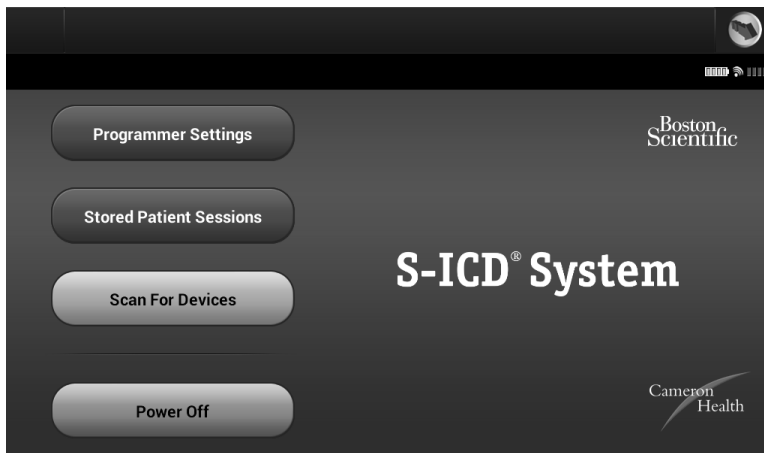
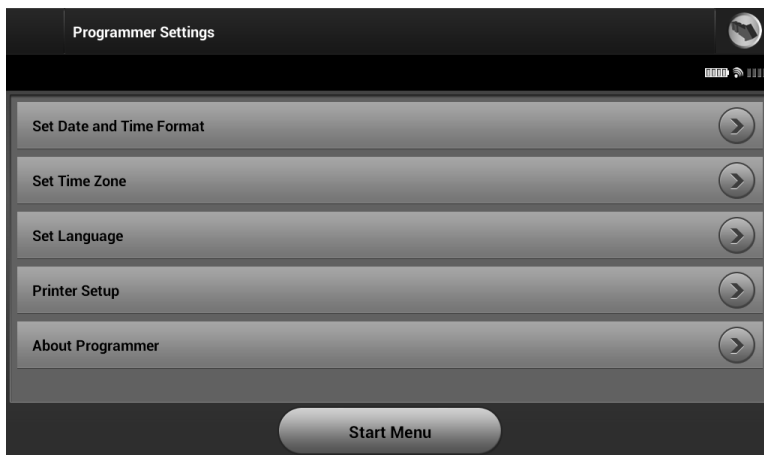
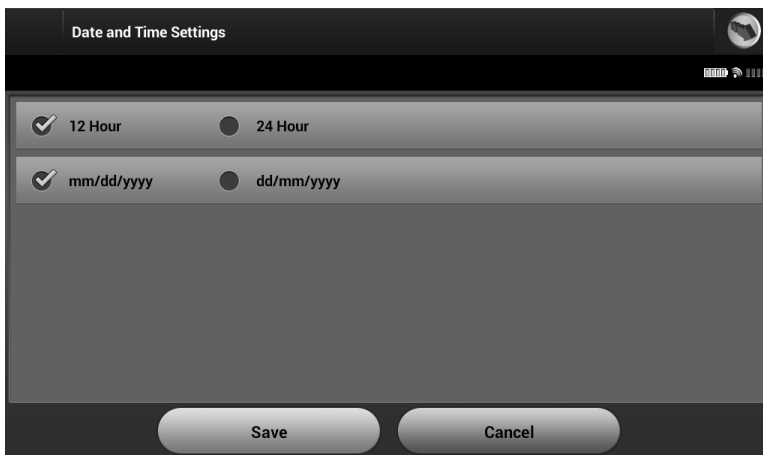

Figure 5: *Startup screen*
Figure 6: *Programmer Settings screen*
Figure 7: *Date and Time Settings screen*
1. Select the Programmer Settings button on the Startup screen (Figure 5) to display the Programmer Settings screen (Figure 6).
1. Select Set Date and Time Format on the Programmer Settings screen (Figure 6). The Date and Time Settings screen appears (Figure 7).